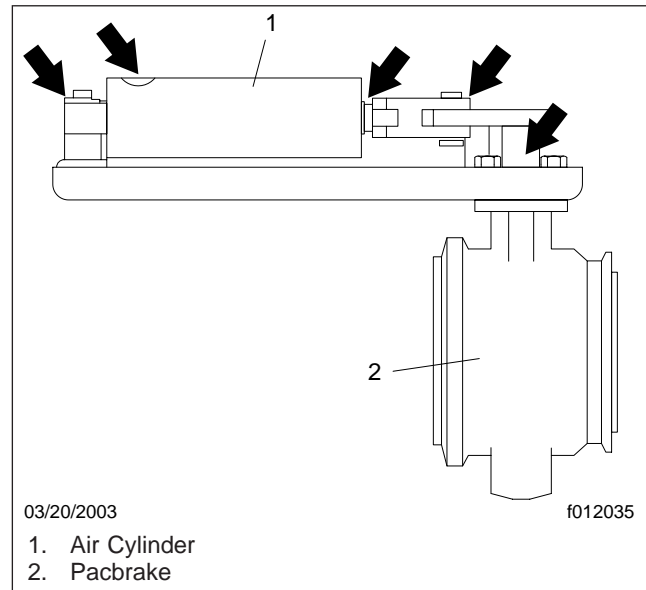

Fig. 5, Pacbrake Exhaust Brake Lube Point Locations
1. With the engine turned off, use Pacbrake Synthetic Lube or Synco Super Lube, and spray or coat a sufficient amount on the restrictor air cylinder valve shaft and the attaching locations at each end of the actuation cylinder. See Fig. 5 for the exhaust brake lubrication points.